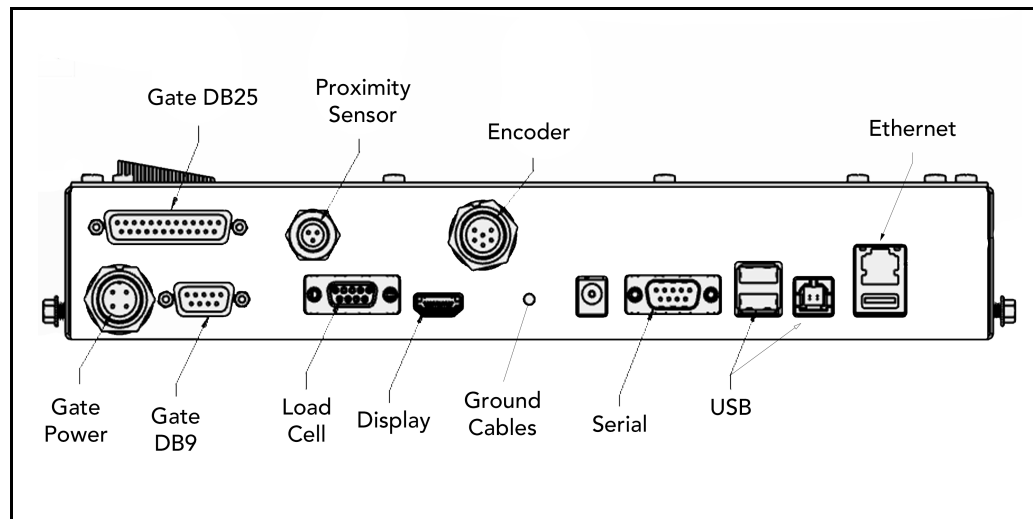

Figure 59
6. Disconnect all connectors that are attached to the controller box (refer to Figure 59 as needed), as follows: